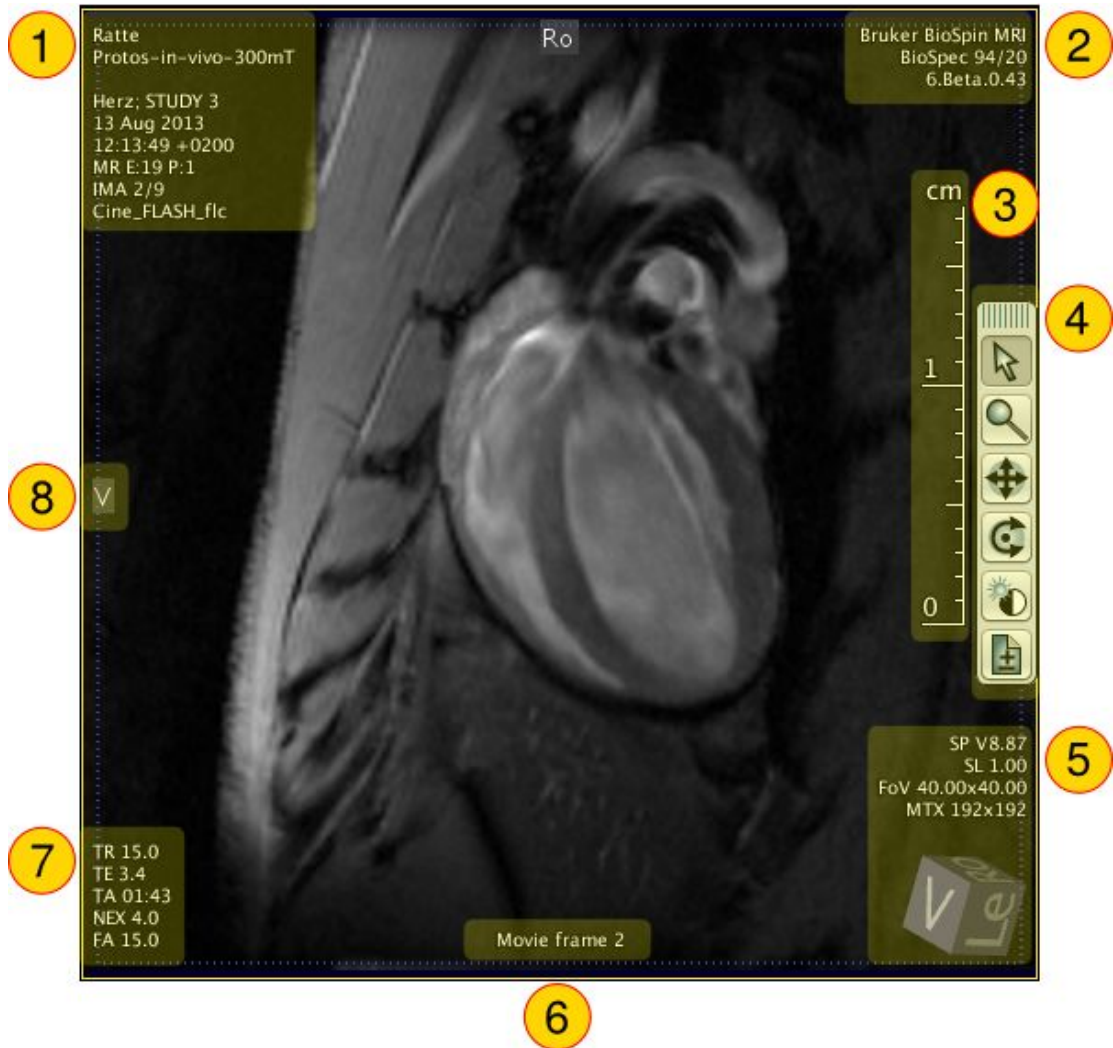

Figure 1.111: Viewport Displaying a 2D Image
In each viewport, a single image is displayed, overlaid with additional information about the image. [Figure 1.111 \[p 136\]](#) shows an example with an image from a rat heart dataset. The image overlay consists of:
- Slice position (SP): Slice shift from the isocenter in slice direction. In the example ([Figure 1.111 \[▶ 136\]](#)), the slice is shifted in ventral (V) direction by 8.87 mm.
- Slice thickness / slice distance (SL): In the example, the slice thickness is 1.00 mm. In a multi-slice experiment, with a slice thickness of 1.50 mm and a slice gap of 1.00 mm, this would read "SL 1.50/2.50".
1. Move the mouse close to any border of a viewport until a blue dotted frame appears (see [Figure 1.111 \[p 136\]](#)).